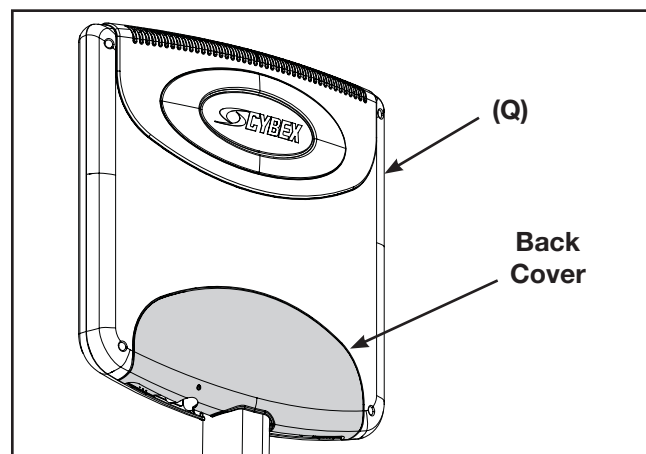

Figure 23
- H. Install back cover to the monitor (Q). See Figure 23.